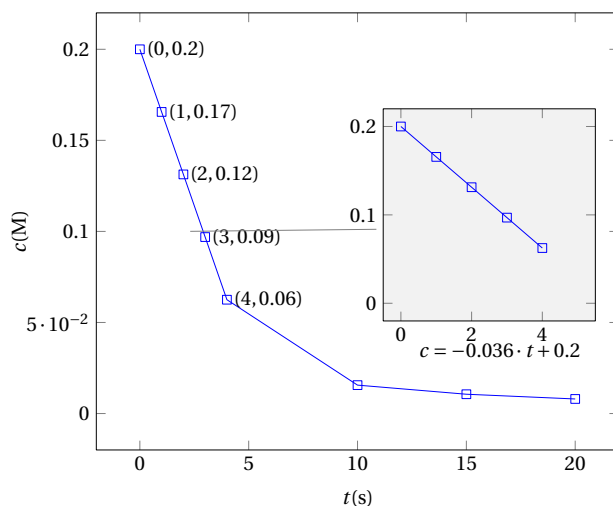

Figure 1 Concentration vs. time graph used to calculate initial velocities.
The concentration of reactants decrease with time, whereas that for products increase. In order to measure reaction rates in a laboratory we would need to pick up either a reactant or a product in order to track concentration changes with time. Here we will focus on reactants and we will explore how the numerical changes on concentrations can be translates into reaction rates. Figure 1 display the changes in concentration for a general reactant. We can see how the changes are more pronounced at early times and slowly become flat a late times. This is because any reaction tends to slow down as time progresses. The instantaneous rate of reaction r is just the slope on the graph at a given time.
study. To obtain initial rates, we will first visually identify the portion of the graph that appears linear. In Figure 1, the linear plot exists between the (0,0.2) and (4,0.06) points. There are two different ways to calculate this slope. In a first, less accurate, method we compute the difference in concentration Δc (−0.16) and the difference in time Δt (5) in the linear region. By computing the ratio between Δc and Δt , we will obtain the average initial rate, an estimate of r_0 . In Figure 1 the average initial rate is
A second, more accurate, method uses a linear regression, a statistical function, to fit a line to a linear subset of data points. The slope of the regression is the initial rate. In linear regressions, R-squared represented as r^2 (also known as the coefficient of determination) is a statistic that measures how well a regression model explains the data. In Figure 1 the linear regression equation is $c = -0.036 \cdot t + 0.2$ and the initial rate is